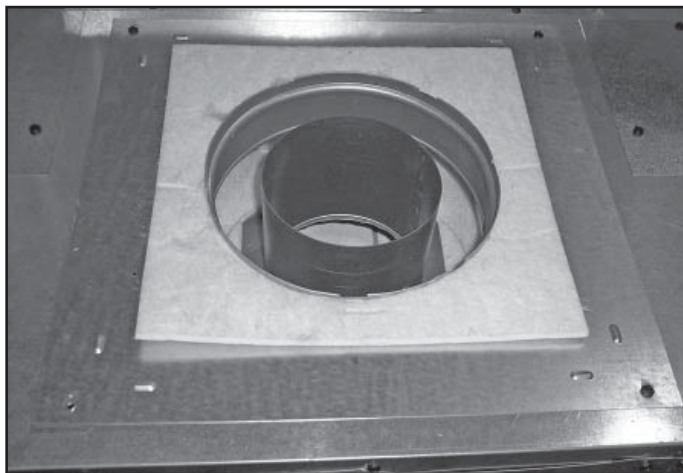

Figure 9.2 Remove White Insulation
Note: If the appliance is to be top vented discard this plate and replace the screw you removed. If the appliance is to be rear vented, continue to the next step and Figure 9.2.
- Remove the white insulation and set aside. See Figure 9.2.